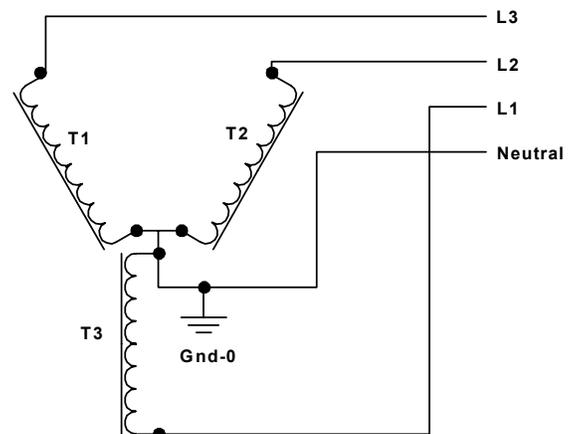

Figure 2
Figure 2 is an illustration of the low voltage secondary side of a three-phase transformer system, which is a wye-connection used to supply 3-phase voltage between L1, L2, and L3. In addition, three each single-phase 208 voltages are available between L1-L2, L2-L3, and L3-L1. In addition, this transformer connection provides three single phase 120-volt supplies; L1-neutral, L2-neutral, and L3-neutral. In this system, single-phase 208-volt loads and balanced three-phase loads, such as motors, welders, heaters, etc create no neutral line current. However, all individual single-phase 120-volt loads connected between lines L1, L2, L3 and neutral contribute to neutral currents flowing toward Gnd-0 at the transformer source.
- In the 4-wire 3-phase wye system shown in Figure 2, all the single-phase 120-volt loads on L1, L2, and L3 form a composite 3-phase load. In practice, this composite is never balanced; consequently, there is always a net current flowing in the neutral line toward the supply ground, Gnd-0.